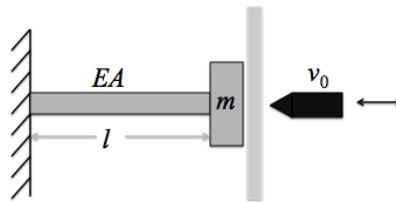

Figure P1.91 A bar model of a punch fixture.
- 1.91** A bar of negligible mass fixed with a tip mass forms part of a machine used to punch holes in a sheet of metal as it passes past the fixture as illustrated in Figure P1.91. The impact to the mass and bar fixture causes the bar to vibrate and the speed of the process demands that frequency of vibration not interfere with the process. The static design yields a mass of 50 kg and that the bar be made of steel of length 0.25 m with a cross sectional area of 0.01 m². Compute the system's natural frequency.
- 1.92** Consider the punch fixture of Figure P1.91. If the system is giving an initial velocity of 10 m/s, what is the maximum displacement of the mass at the tip if the mass is 1000 kg and the bar is made of steel of length 0.25 m with a cross sectional area of 0.01 m²?
- 1.93** Consider the punch fixture of Figure P1.91. If the punch strikes the mass off center it is possible that the steel bar may vibrate in torsion. The mass is 1000 kg and the bar 0.25 m-long, with a square cross section of 0.1 m on a side. The mass polar moment of inertia of the tip mass is 10 kg/m^2 . The polar moment of inertia for a square bar is $b^4/6$, where b is the length of the side of the square. Compute both the torsion and longitudinal frequencies. Which is larger?